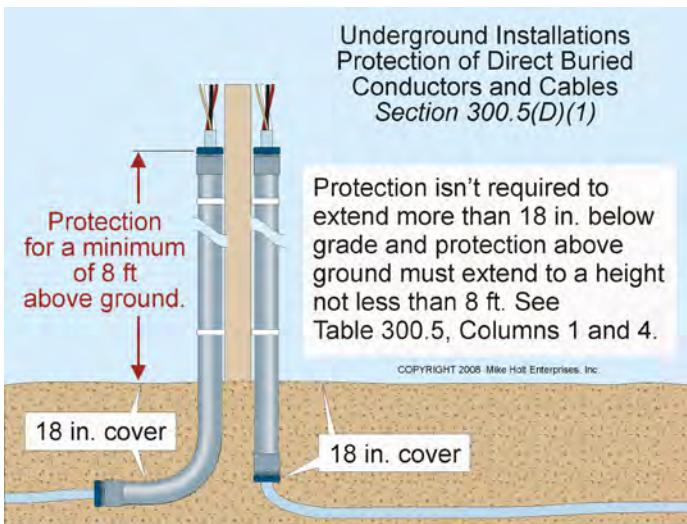

Figure 300-11
(1) Emerging from Grade. Direct-buried cables or conductors that emerge from grade must be installed in an enclosure or raceway to protect against physical damage. Protection isn't required to extend more than 18 in. below grade, and protection above ground must extend to a height not less than 8 ft. **Figure 300-11**
(2) Conductors Entering Buildings. Conductors that enter a building must be protected to the point of entrance.